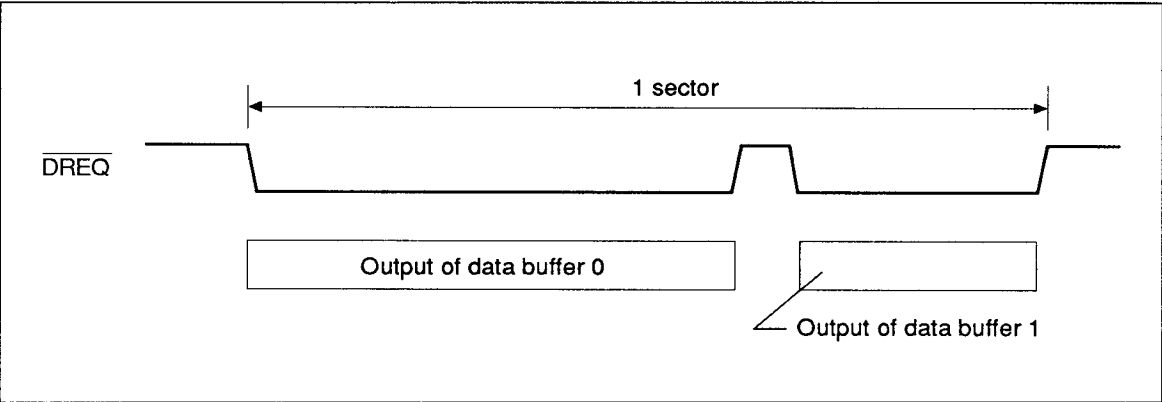

Figure 3 Data Buffer Switching and Negation of  $\overline{\text{DREQ}}$
**Burst mode:** The FDP asserts the  $\overline{\text{DREQ}}$  signal until the DMA transfer is completed (all data sectors are transferred), aborted ( $\overline{\text{DONE}}$  is input, the ABORT command is issued, or a drive error occurs), or the buffer is switched.  $\overline{\text{DREQ}}$  is temporarily negated when data of one sector has been transferred or after 544 bytes have been transferred if the sector is more than 544 bytes long (figure 3).